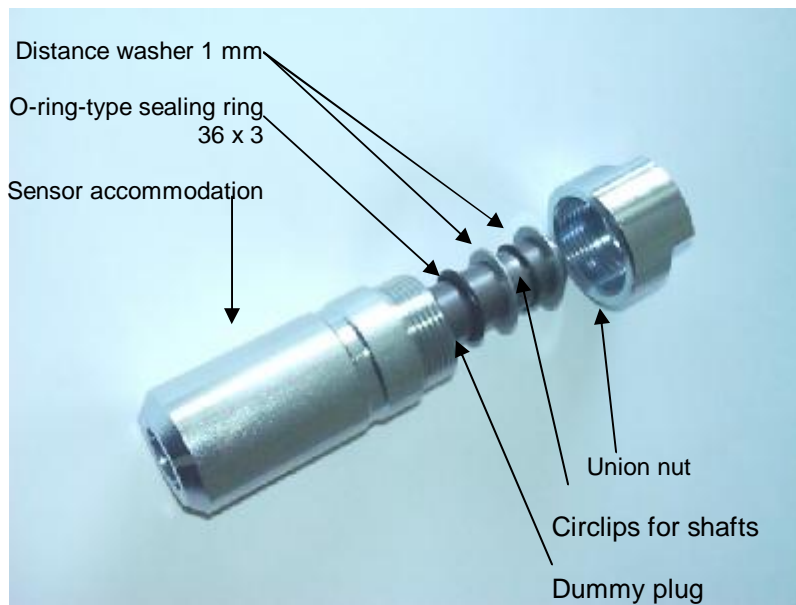

Fig. 5: Installation of the sensor accommodation and the dummy plug.
- If the sensor is not installed immediately, the dummy plug must be put in until the sensor will be installed (see fig. 5). Use a 32 mm wrench for tightening the union nut.
- Fig. 5: Installation of the sensor accommodation and the dummy plug.